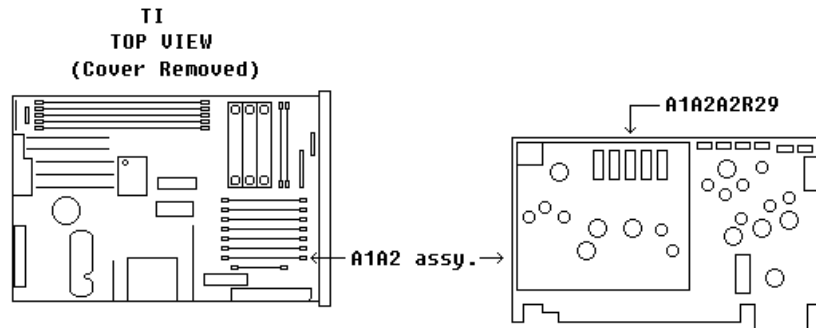
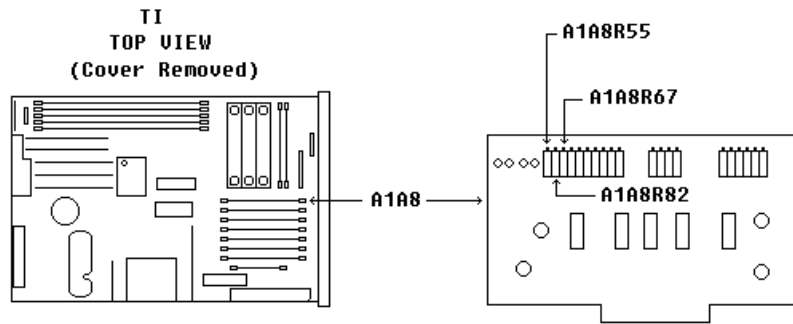

Figure 7. A1A2 board.
Figure 8. A1A8 board.
- (6) Press TI RCL 1.
- (7) Adjust A1A2A2R29 (fig. 7) for a measuring receiver indication of  $-3.0$  dBm (R).
- (8) Using **TUNE KNOB**, tune the test instrument from 2 to 6.6 GHz. Record minimum and maximum measuring receiver indications and frequencies where they occur.
- (9) Adjust A1A8R55 (fig. 8) to reduce the difference between minimum/maximum power indications (R).
- (10) Using **TUNE KNOB**, tune the test instrument to 2 GHz.
- (11) Readjust A1A2A2R29 (fig. 7) for a measuring receiver indication of 3.0 dBm.
- (12) Tune the test instrument from 2 to 6.6 GHz. Verify that the output level stays within  $\pm 1$  dB of -3 dBm.
- (13) Repeat (8) through (12) above until level stays within 1 dB of -3 dBm or until no further improvement can be made.
- (14) Press TI **RCL 2**.
- (15) Using **TUNE KNOB**, tune the test instrument from 6.600002 to 12.99902 GHz. Record minimum and maximum measuring receiver indications and frequencies where they occur.
- (16) Adjust A1A8R82 (fig 8) to minimize difference between minimum and maximum power indications (R).
- (17) Press TI **SWEEP MODE OFF, FREQ INCR, 2, 0, 0**, and **MHz** keys.
- (18) Verify the measuring receiver indicates -3 dBm  $\pm 0.2$  dBm. Readjust A1A2A2R29 (fig. 7) as necessary for best compromise.
- (19) Using **TUNE KNOB**, tune the test instrument from 2 to 12.2 GHz. Verify that the difference between the minimum and maximum power indications are equal to or less than 3 dB.
- (20) Press TI **RCL** and **3** keys.
- (21) Using **TUNE KNOB**, tune the test instrument from 12.300003 to 17.59999901 GHz. Record minimum and maximum measuring receiver indications and frequencies where they occur.
(22) Adjust A1A8R67 (fig. 8) to minimize difference between minimum and maximum power indications (R).
(23) Press **TI SWEEP MODE OFF**, **FREQUENCY**, **2**, and **GHz** keys.
(24) Adjust A1A2A2R29 (fig. 7) for a measuring receiver indication of -3.0 dBm.